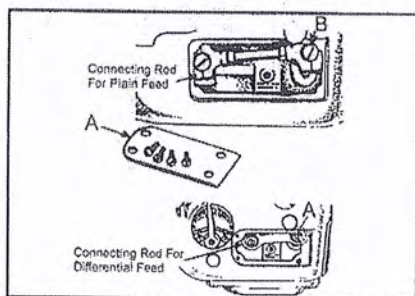

FIG.8
If more or less looper avoid motion is required, remove cylinder side cover (A, fig. 8) located at the lower front left side. Use a screwdriver to loosen looper avoid link ball joint (B). Moving ball joint down in the lever slot increases the amount of looper avoid motion, moving it up acts the reverse. Retighten ball joint (B) securely.